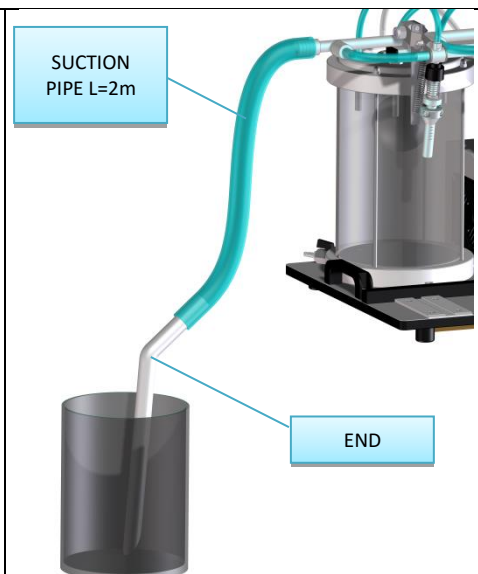

Fig.3
5. Connect the manifold from nozzles with the rigid suction pipe by using the 2 m transparent pipe supplied with the unit. The end side (suction control) must be set to allow for fluid flow (fig. 3).